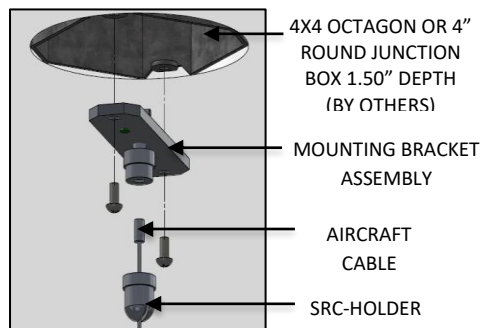

FIG. 22 – MOUNTING BRACKET ASSEMBLY
11. Feed the remaining AIRCRAFT CABLE through the SRC-HOLDER. Then assemble the SRC-HOLDER with AIRCRAFT CABLE to the SRC-BASE on the MOUNTING BRACKET ASSEMBLY. Secure the MOUNTING BRACKET ASSEMBLY to the JUNCTION BOX (by others) as shown below in FIG. 22.